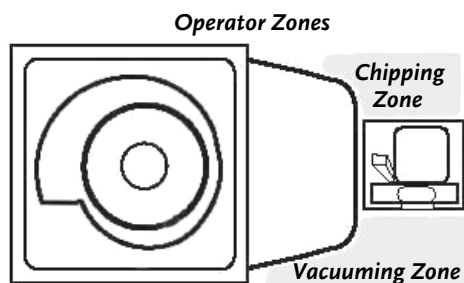

Figure 20
5. **NOTE:** *Always* be sure to stand inside the **Operator Zones** to run the DR LEAF and LAWN VACUUM as a chipper or held hand vacuum. These are the areas on either side of your machine (**Figure 20**).
- ALWAYS OPERATE THE CHIPPER FROM THE "CHIPPING ZONE" (SEE *FIGURE 20* ON PAGE 27).